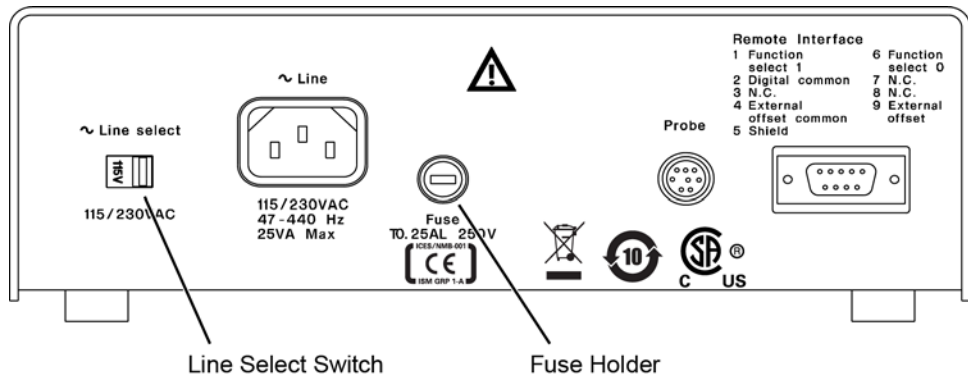

Figure 3 1142A Rear Panel
Verify the setting of the **LINE SELECT** switch on the 1142A's rear panel. The slide switch can be set to either 115 or 230V. See Figure 3 on page 12 for the location of the switch.
- a Locate the fuse holder shown in Figure 3. Gently push the fuse holder in using your finger or a flat-bladed screwdriver.